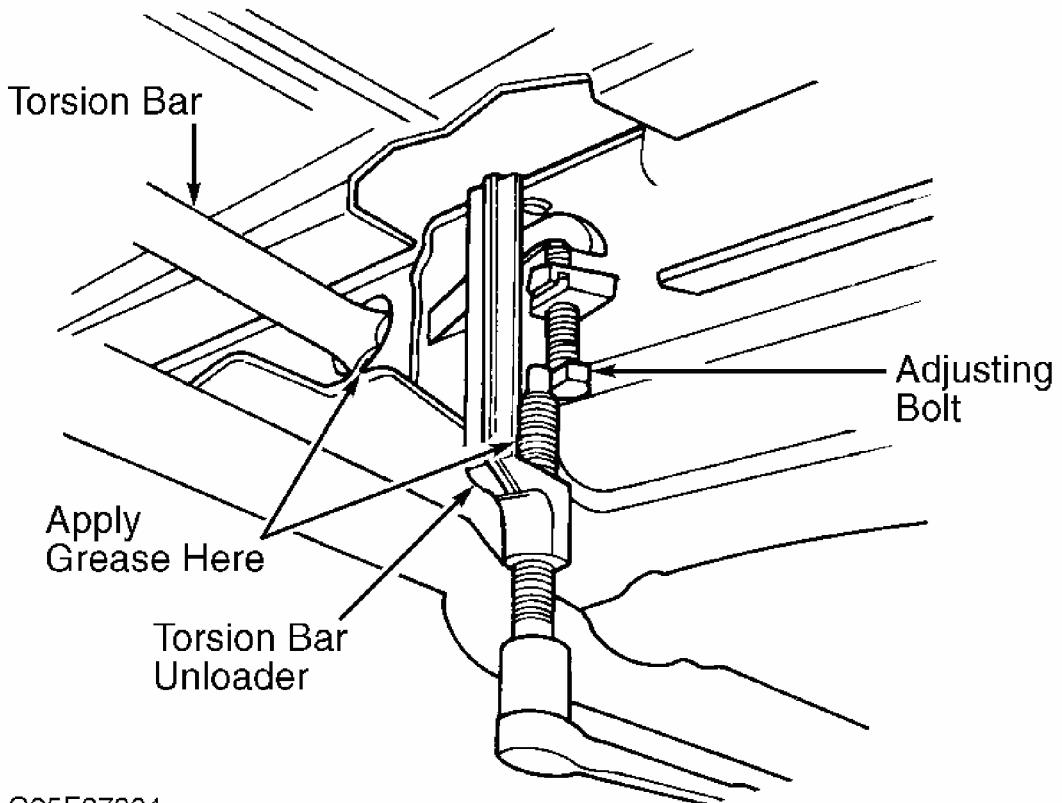

Fig. 2: Unloading Torsion Bar Tension
1. Raise and support vehicle. Unload torsion bar tension. See **Fig. 2**. See **TORSION BAR**. Count exact number of tool turns for reassembly reference. Slide, but DO NOT remove, torsion bar forward.
1. Raise and support vehicle. Remove wheel and tire assembly. Unload torsion bar tension. See **Fig. 2**. Mark adjusting bolt setting. Using Torsion Bar Unloader (J-36202), increase tension on adjusting arm. Remove torsion bar adjusting bolt, counting number of turns for reassembly reference.